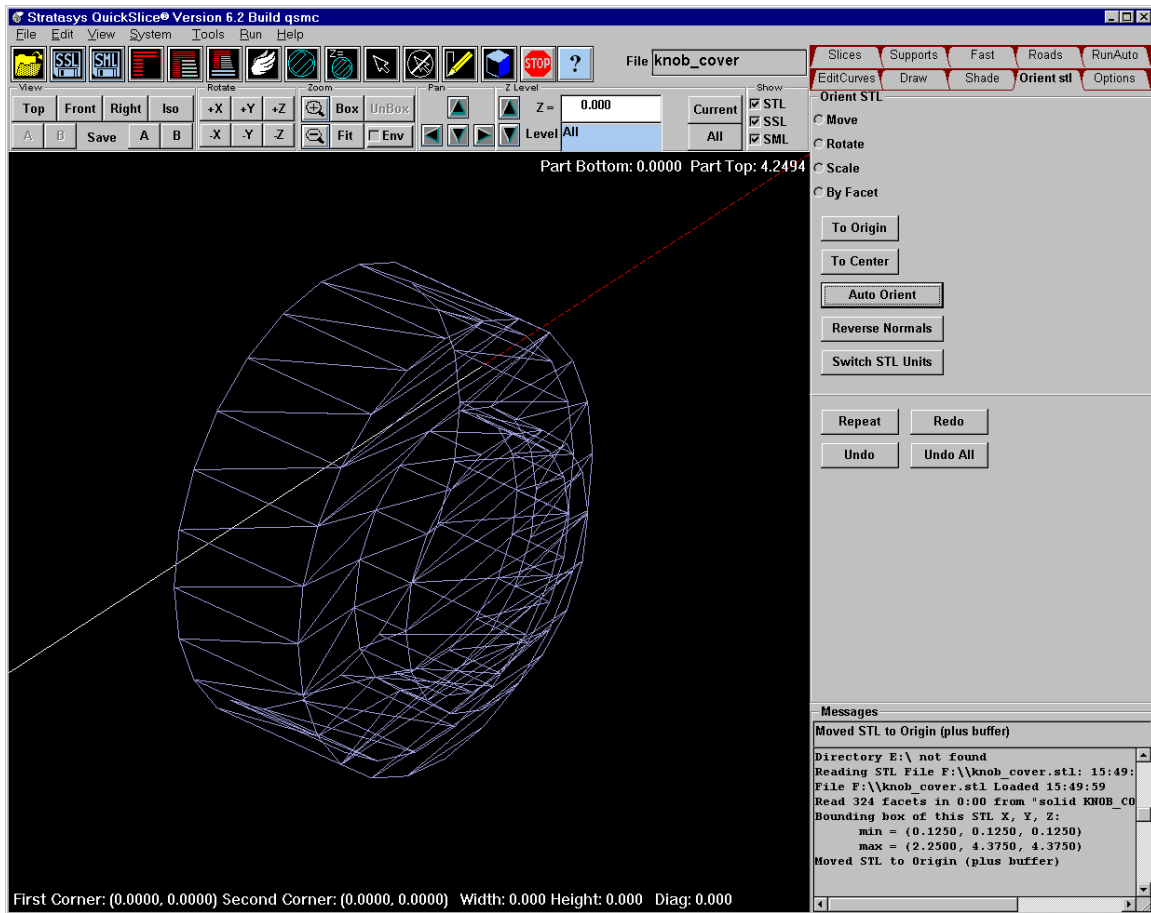
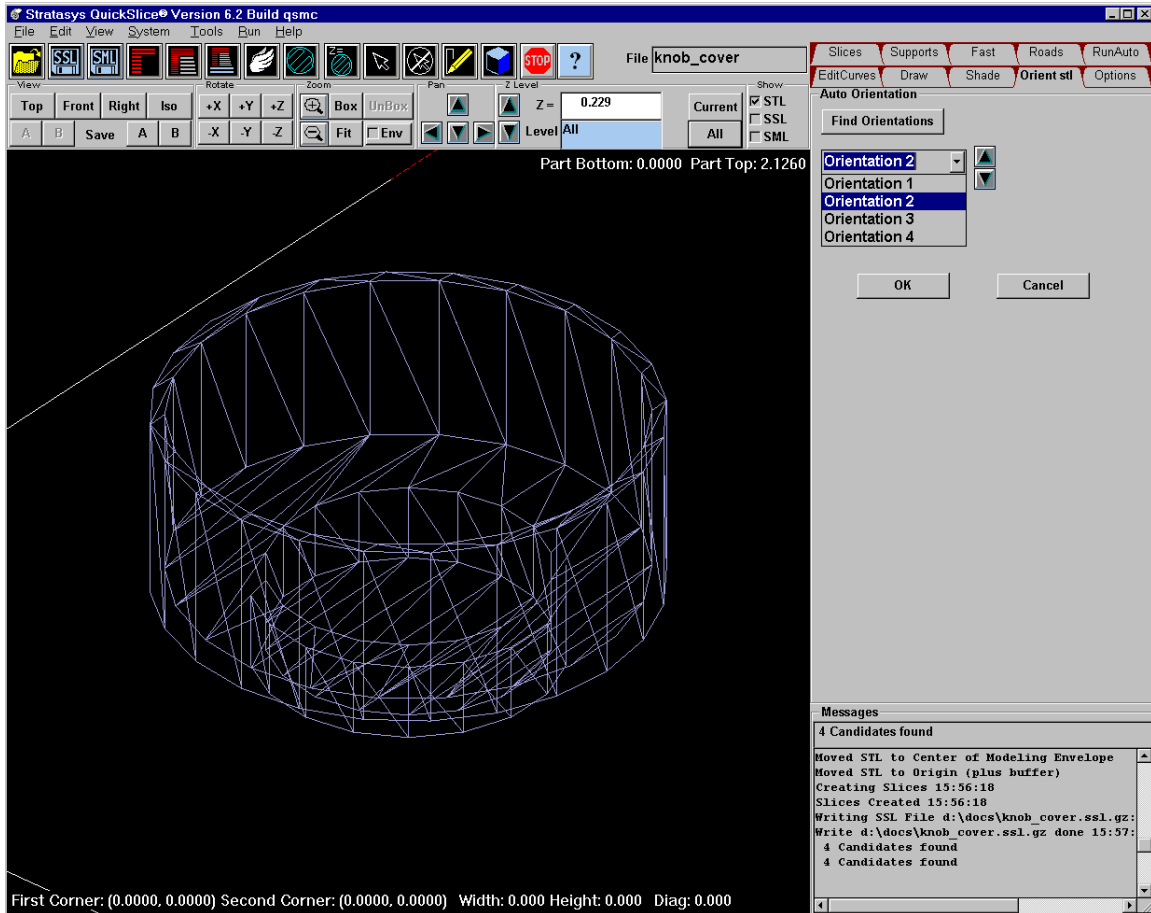

Figure 3: Choosing model orientation.
Figure 4: Finding orientation.
- Click **Orient stl** tab on top right side of page. See figure 3 below. Clicking on **Switch STL Units** will change between Metric and English units, make sure it is set on Metric units. (The conversion is not reliable).
- Click on **Auto Orient** as shown in figure 3. A new menu will appear then choose **Find Orientations** as shown in figure 4 below. An orientation must be chosen that will use the least amount of support material since a layer cannot be built in mid-air. Creating supports will be discussed later in manual.
- After choosing orientation click **OK**. Figure 3 will appear again and choose **To Origin** since Rapidprotyper will begin part building at origin of foam material.